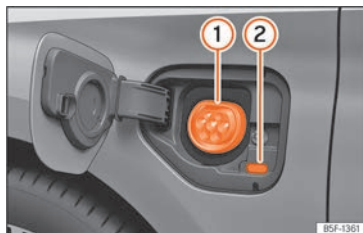

Fig. 59 Behind the battery charging cover on the front left-hand side: Charging socket
>>> Fig. 59
- With the vehicle unlocked, the battery charging cover opens when it is pressed >>> Fig. 59.